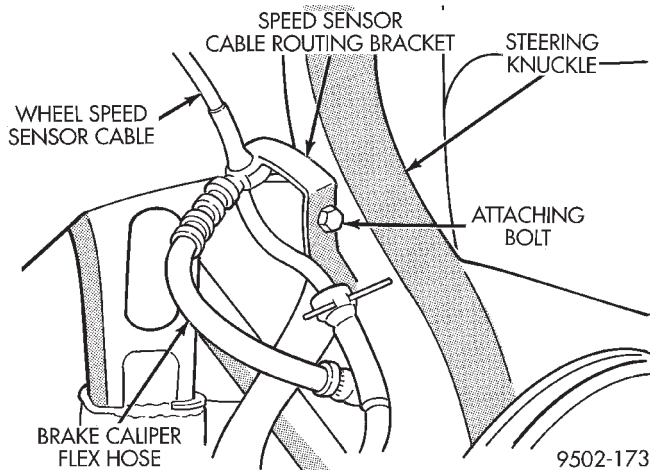

Fig. 3 Wheel Speed Sensor Cable Routing Bracket
- (1) Loosen wheel nuts.
- (2) Raise vehicle on jack stands or centered on a frame contact type hoist. See Hoisting in the Lubrication and Maintenance section of this manual, for the required lifting procedure to be used for this vehicle.
- (3) Remove the wheel and tire from the location on front of vehicle requiring shock removal.
- (4) If both shock absorbers are removed, mark the shock absorbers right and left according to which side of the vehicle they were removed from.
- (5) Remove the wheel speed sensor cable routing bracket (Fig. 3) from the steering knuckle.
(6) Install the routing bracket for the speed control cable (Fig. 3) on the steering knuckle. Install and securely tighten the routing bracket attaching bolt (Fig. 3).